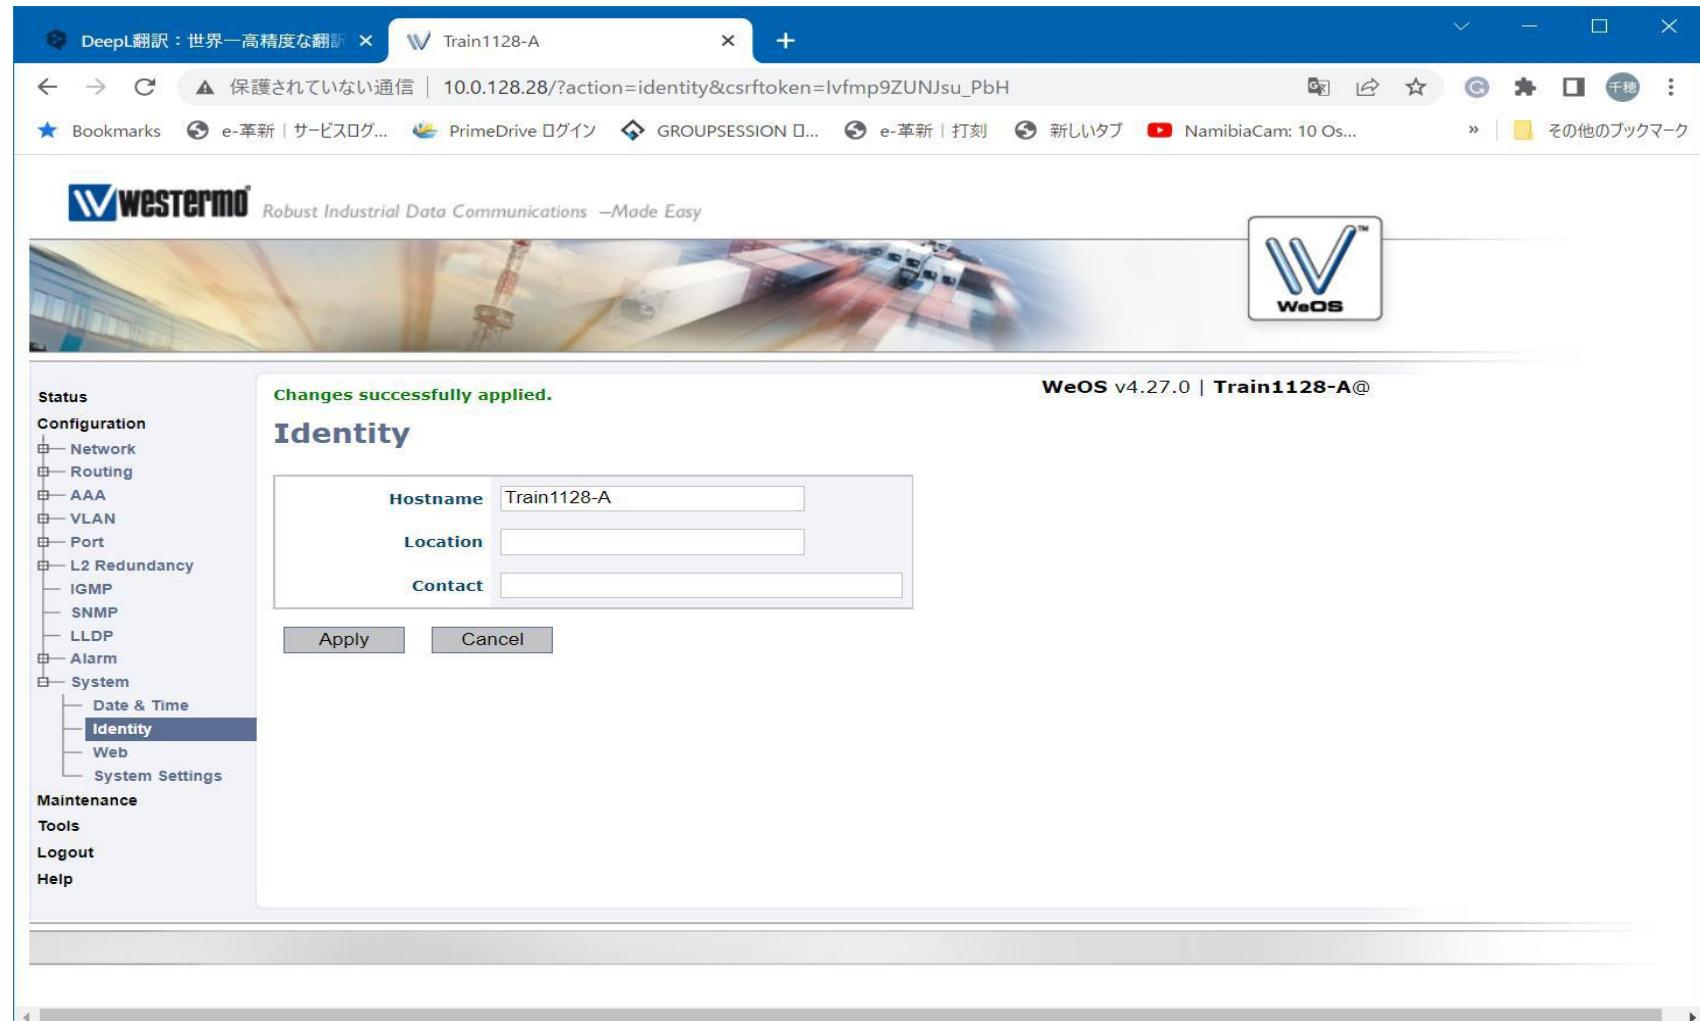

Figure 8-19: Identity Screen
- d. Set the Identity as shown in Figure 8-19. Put the name of Viper as “TrainXXXX-A” in Hostname
- d. Set the Identity as shown in Figure 8-19. Put the name of Viper as “TrainXXXX-B” in Hostname